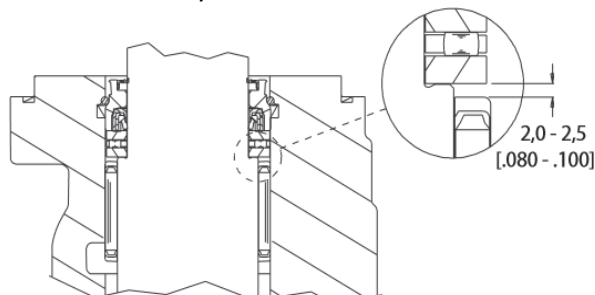

Figure 3: Necessary clearance
There should be 2.0 mm - 2.5 mm [.080 in - .100 in] clearance between the rear-most thrust washer (13) and the front shaft bearing (15). See *Figure 3*